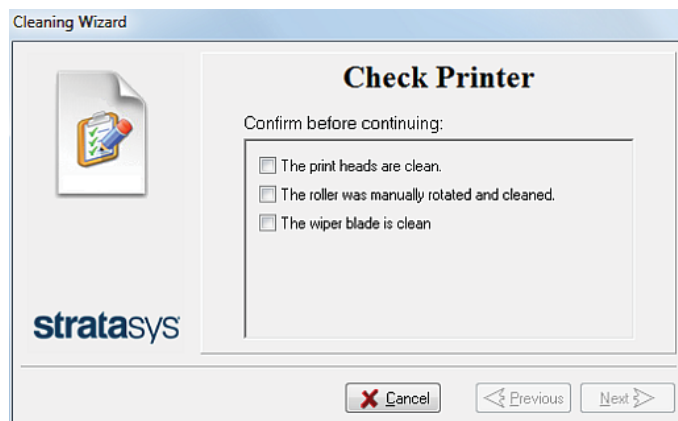

Figure 4-40 Wizard screen during cleaning tasks
14. When you have finished cleaning, select the confirmation check boxes in the wizard screen (see Figure 4-40) and click Next.